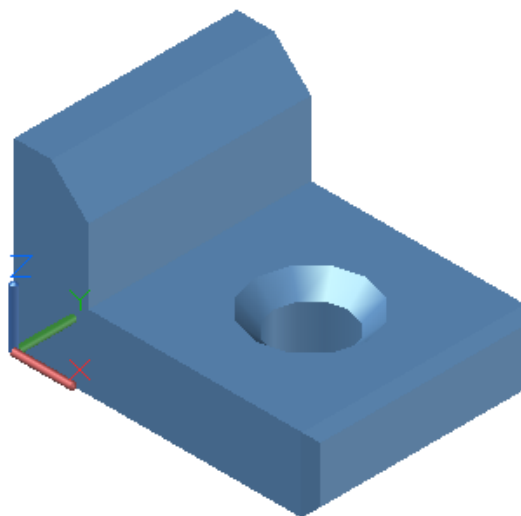

Figure Step 4
Step 4 Draw the solid model on layer: Solid 7. (Figure Step 4)